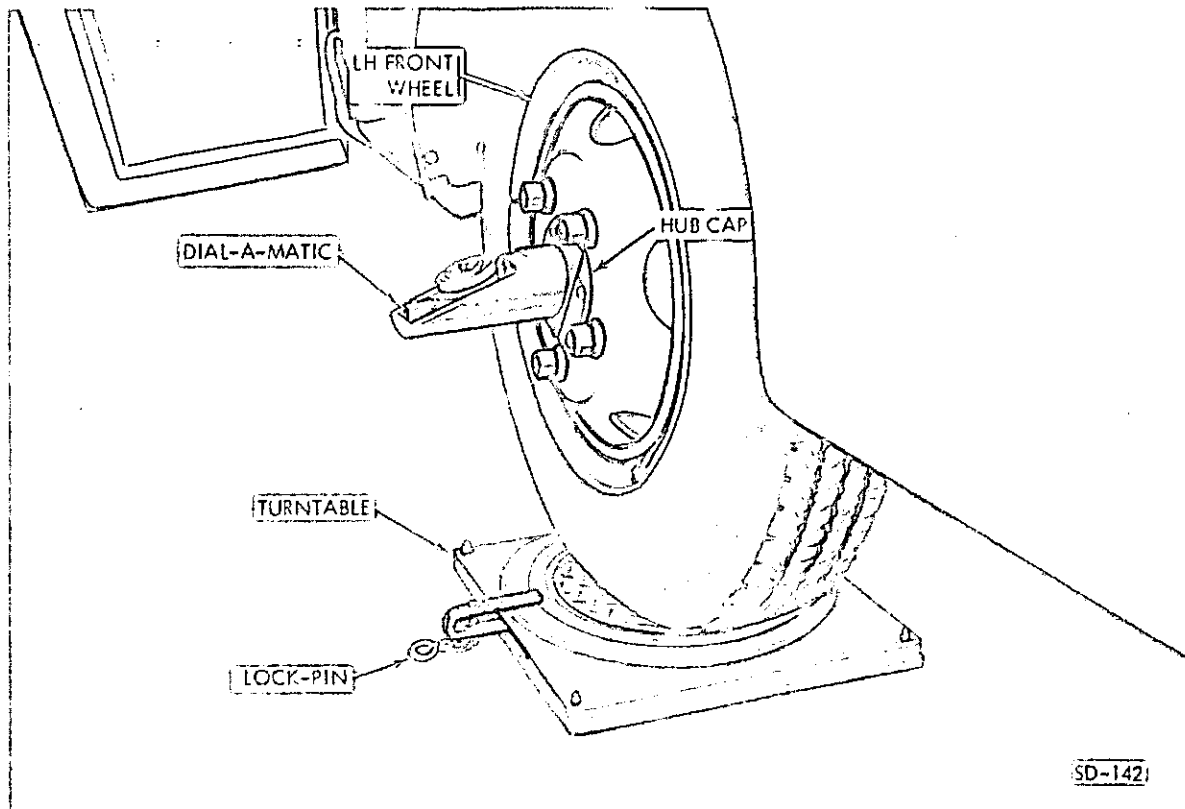

Figure 7-5. Front Wheel Alignment
(b) Using a John Bean "Dial-A-Matic" caster, camber and dual-level indicating device (fig. 7-5), or equivalent, magnetically attach to left-hand front wheel hub cap, with adapter, to get readings directly in line from spindle axle.
(3) *Caster Adjustment (fig. 7-5)*. With levelling and camber adjusted as outlined in preceding steps, proceed to adjust caster to 2 degrees positive as follows:
(4) *Toe-out Adjustment (Front) (fig. 7-5)*. With levelling, camber and caster adjusted as outlined in preceding steps, adjust toe-out 3/8 inches as follows:
~~(5) *Toe-in Adjustment (Rear) (fig. 7-5)*. With front toe-out adjusted as outlined above, check the rear outboard wheel toe-in and adjust, if required, as follows:~~